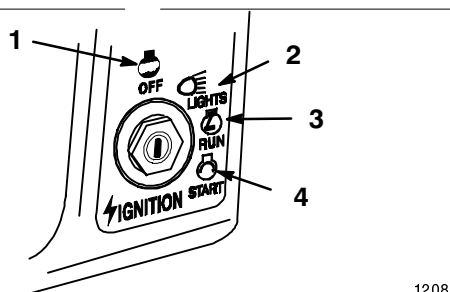

**Figure 3**
3. Push the PTO (power take off) to "OFF" (Fig. 3).
4. Move the choke lever to "ON" (Fig. 3).
- Push the PTO (power take off) to “OFF” (Fig. 3).